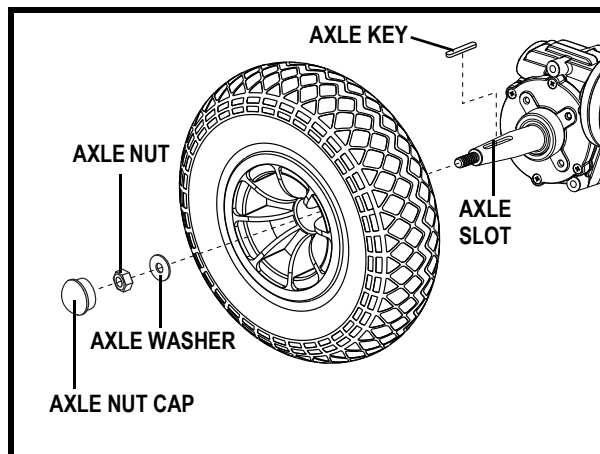
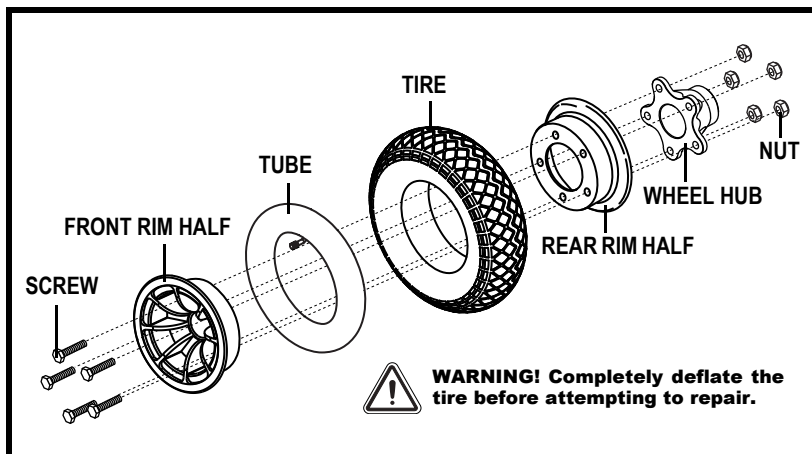

Figure 27. Sparky Drive Wheel
Figure 28. Sparky Drive Wheel Disassembled
4. Remove the axle nut cap, axle nut, and axle washer from the wheel hub. **See figure 27.**
6. Remove the five (5) Nylock nuts from the inside of the wheel hub.
7. Remove the screws and separate the front and rear rim. **See figure 28.**
9. Reinstall the screws through the two rim halves and hub. Tighten the five (5) Nylock nuts on the inside of the wheel hub.